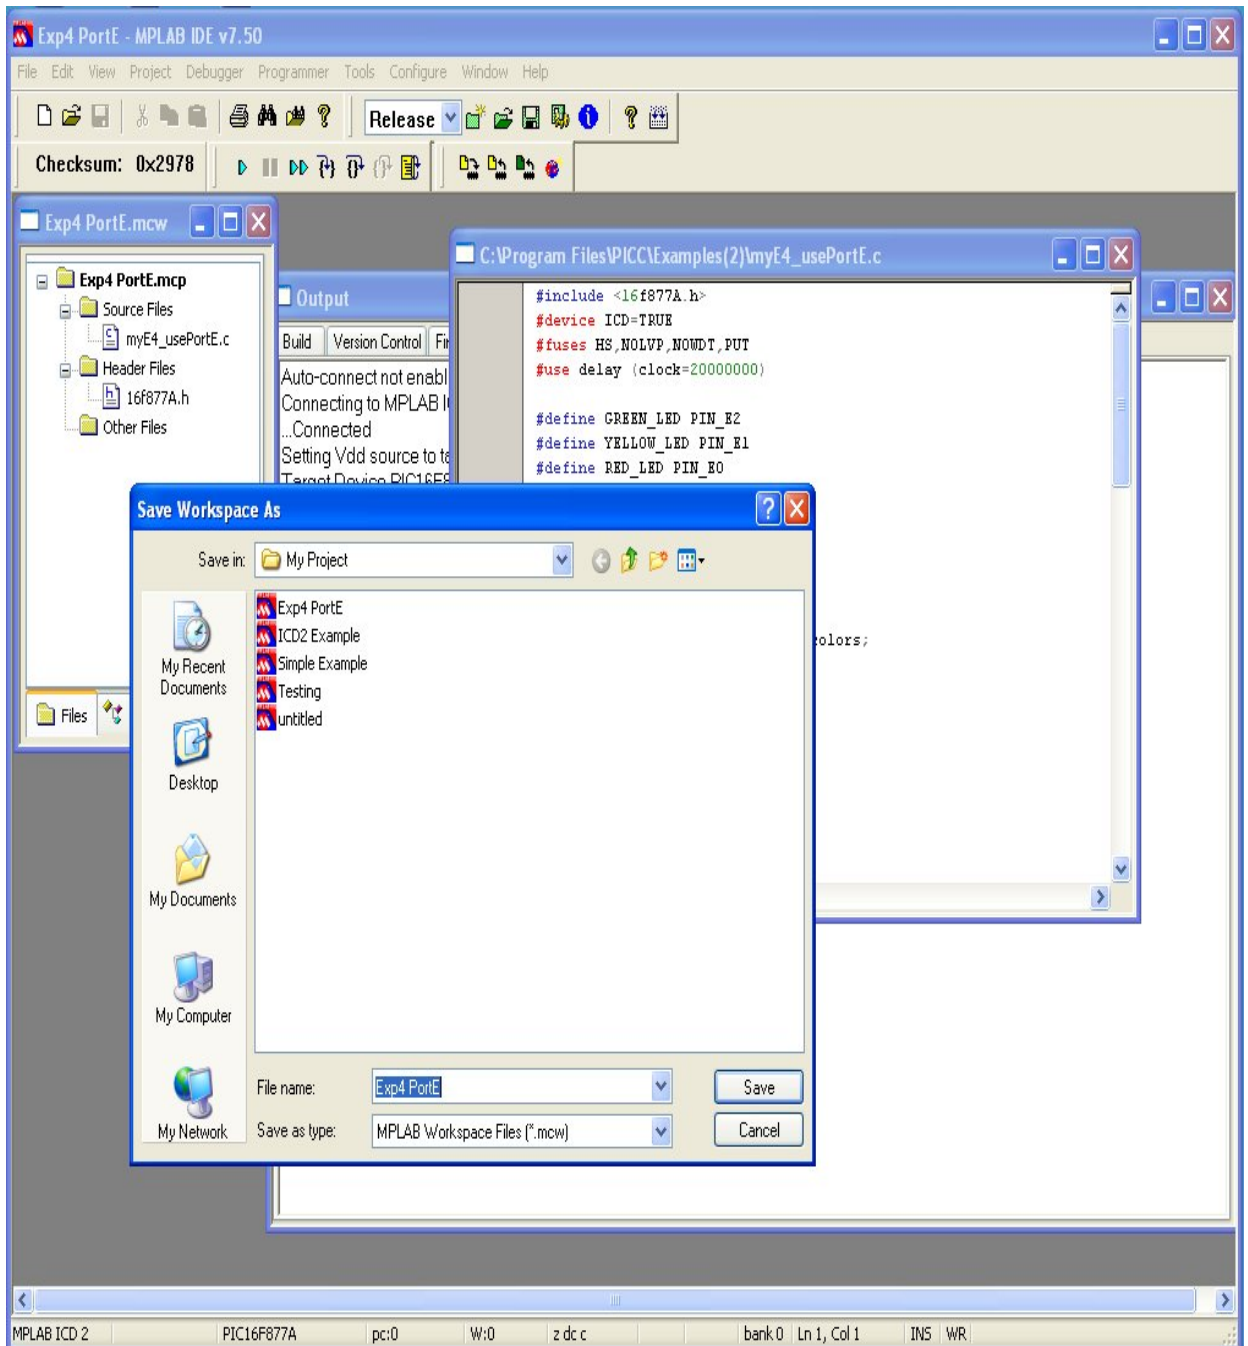

Figure 25: Save work space
- To save time in setting up the ICD2 and other settings when you resume your work next time, before leaving current working session, save working space: *File → Save Workspace or File → Save Workspace as*. This saved work spaces can be opened next time you launch MPLAB IDE: *File → Open Work Space* (Fig. 25)